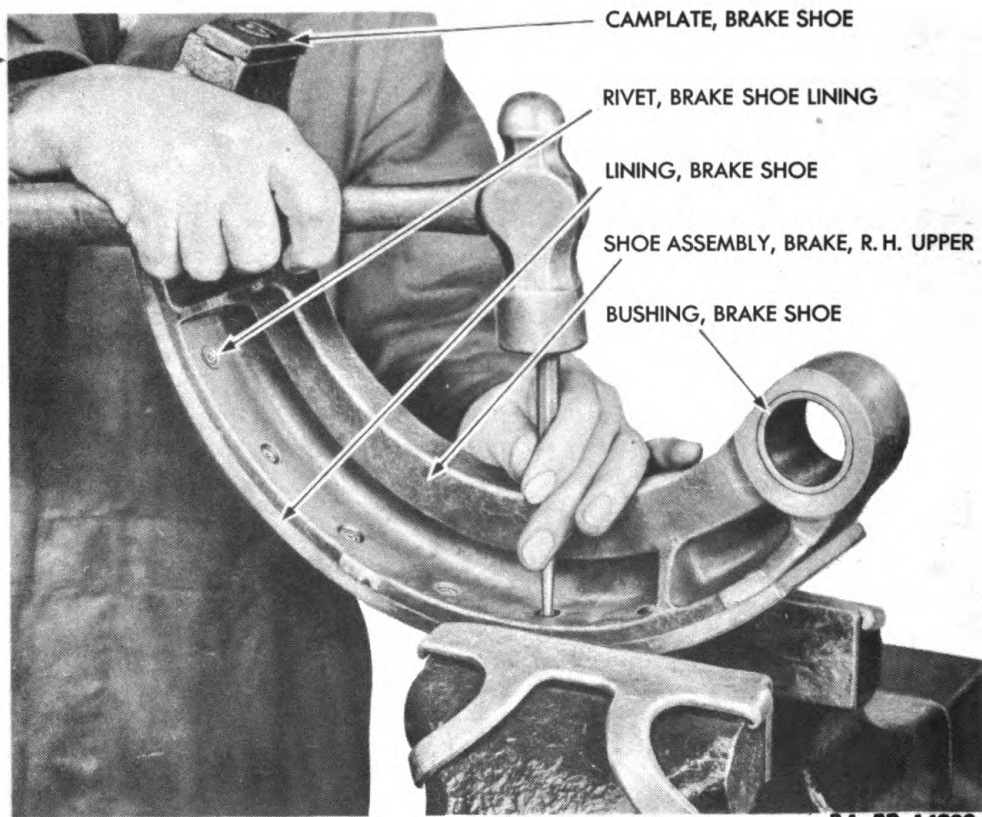

Figure 3—Removing Front Brake Shoe Lining Rivets
(5) DISASSEMBLE BRAKE SHOE ASSEMBLIES (figs. 3 and 4).
(a) Place right-hand upper brake shoe assembly in a vise (fig. 3).
(e) Place brake shoe in a hydraulic press and remove brake shoe bushing (fig. 3).
(a) Place brake shoe in hydraulic press and install brake shoe bushing (fig. 3). Repeat the operation on second brake shoe.
(c) Install brake shoe lining (fig. 3) and fasten with 14 brake shoe lining rivets. Sink all rivets below brake shoe lining surface (brake riveting machine).